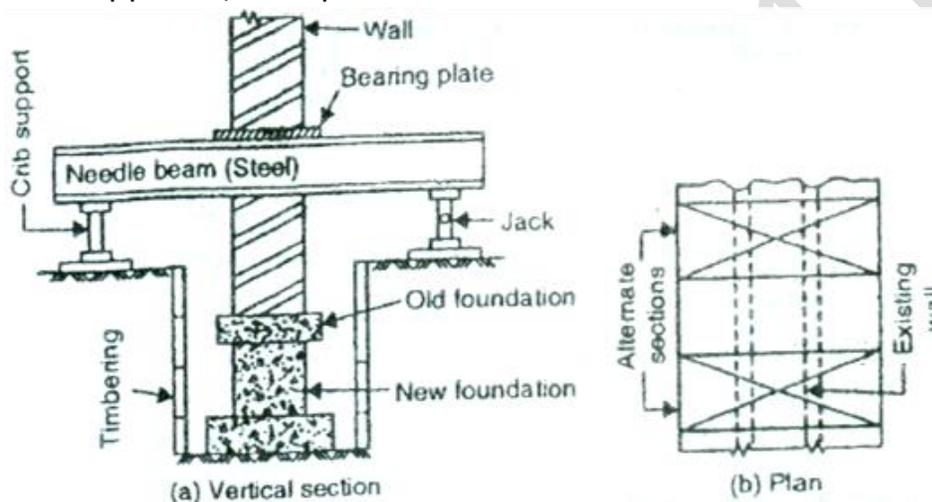

Fig. 4.16: Pit Method
- When the work of one section is over, work on next to next is taken up i.e., alternate sections are underpinned in the first round and then the remaining sections are taken up (Fig. 4.16). If the wall to be underpinned is weak, raking shore may be provided. Similarly, the floor may also be supported, if required.